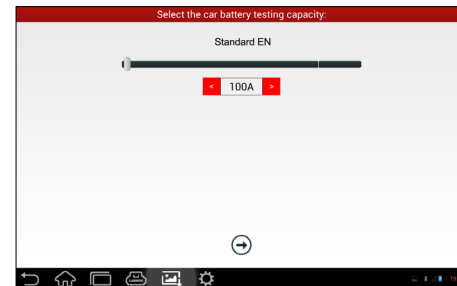

Fig. 7-6
6. Select a testing standard except for JIS and tap , a screen similar to Fig. 7-6 will appear. Users can adjust capacity size by tapping on < > or by dragging the slider on the bar.